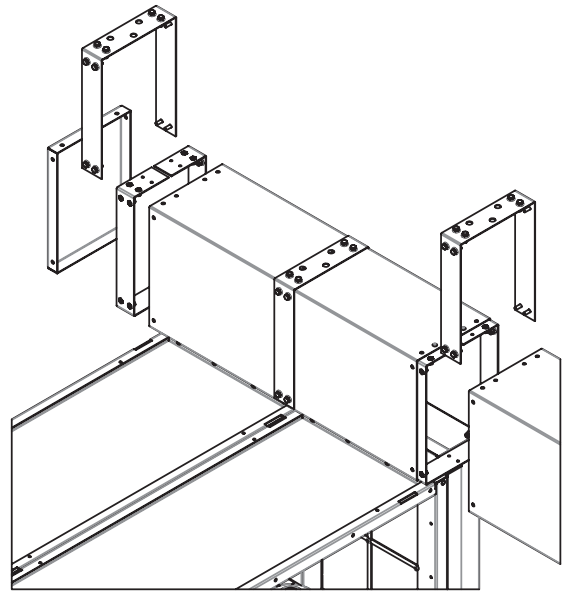

Figure 79. Connected gas vent duct; additional duct and end plate
- Figure 79 shows an additional duct and end plate.